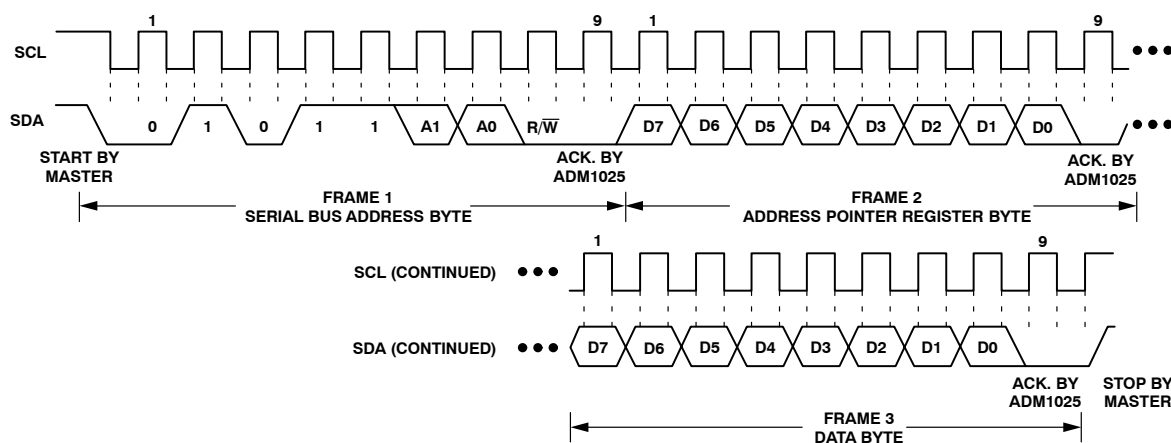
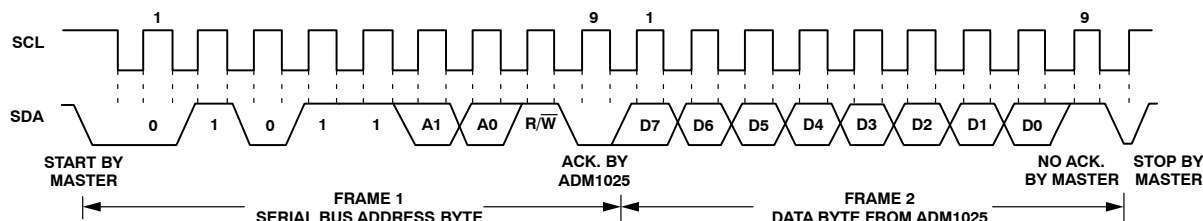

Figure 10. Writing a Register Address to the Address Pointer Register, then Writing Data to the Selected Register
Figure 12. Reading Data from a Previously Selected Register
This is illustrated in Figure 10. The device address is sent over the bus followed by $R/\overline{W}$ set to 0. This is followed by two data bytes. The first data byte is the address of the internal data register to be written to, which is stored in the Address Pointer Register. The second data byte is the data to be written to the internal data register.
2. In Figure 10 to Figure 12, the serial bus address is shown as the default value 01011(A1)(A0), where A1 and A0 are set by the three-state ADD pin.